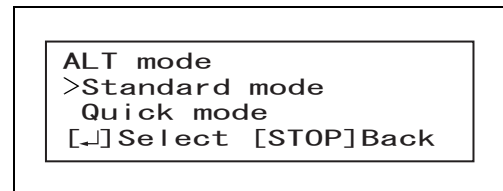

Figure 7.14
- 4 The LCD monitor displays the screen as shown in Figure 7.14. Select the Standard mode by operating the ▲ and ▼ buttons if more than seven minutes have passed after removal of the endoscope from the body, Select the Quick mode by operating the ▲ and ▼ buttons if seven minutes has not passed after removal of the endoscope from the body.